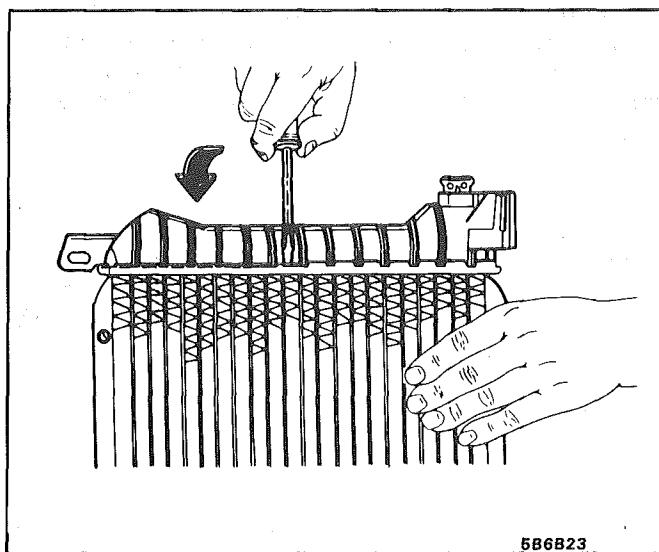

Fig. 23 Opening Clinch Tabs
- Pry open the clinch tabs, except those under inlet, outlet, and filler necks, using J33419-A or a screwdriver (Fig. 23). Lift tabs only enough to allow removal.